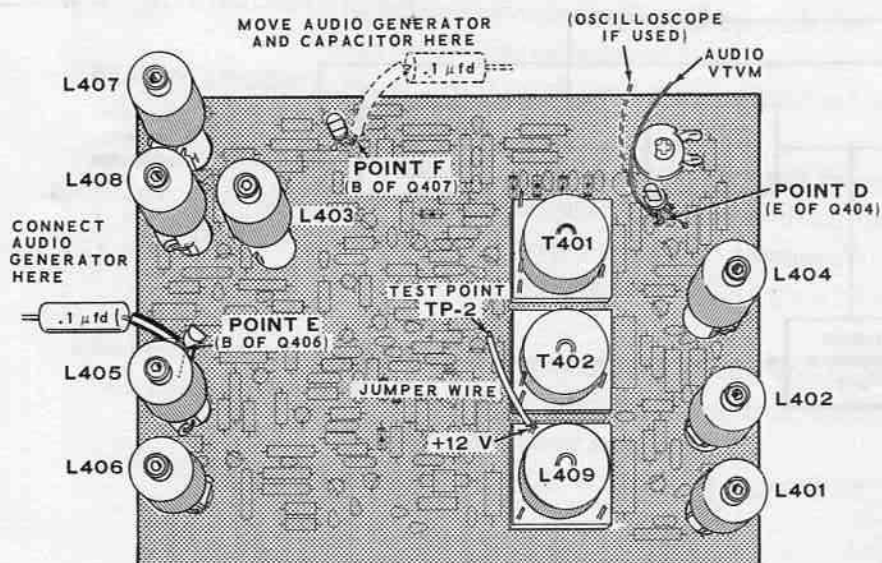

FIGURE 4-9
- () Connect the audio generator through this .1 μ fd capacitor to Point E (base of Q406) on the multiplex circuit board, as shown in Figure 4-9.
- () Connect the .1 μ fd capacitor to Point F (base of Q407) on the multiplex circuit board, as shown in Figure 4-9.
- () Connect the audio generator through this .1 μ fd capacitor to Point F (base of Q407) on the multiplex circuit board, as shown in Figure 4-9.
- () Connect a jumper wire between test point TP2 on the multiplex circuit board and the +12 volt terminal on coil L409, as shown in Figure 4-9 (fold-out from this Page). Make sure that the jumper wire does not touch any other connection on the circuit board.